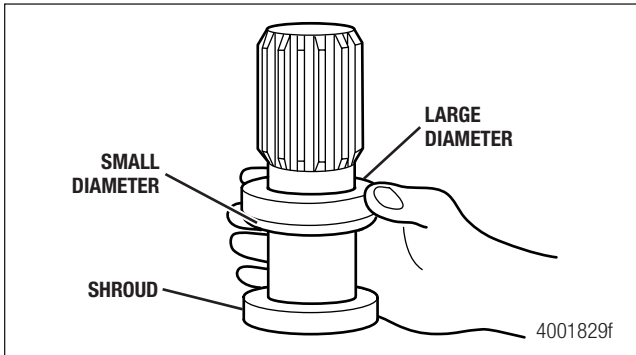

Figure 5.44
4. Install the new seal onto the spline shaft neck. Ensure that the small diameter side fits onto the splines first. Figure 5.44.